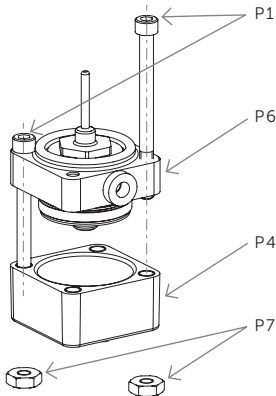

Figure 3.
1. Remove the top cap (P4) from the replacement valve module by removing the two hex nuts (P7) and threading out the two screws (P1). The screws must be turned out to prevent damage to the black pneumatic diaphragm. Discard the two nuts (P7). (See Figure 3).